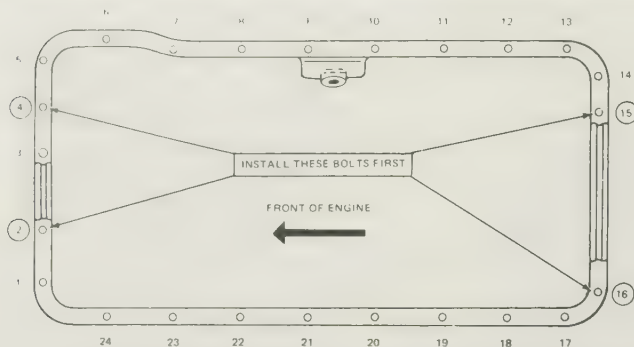

Fig. 1.65. Correct tightening sequence for oil pan bolts (Sec. 46)
- 8 Replace all the oil pan bolts and tighten them evenly to the specified torque setting (Fig. 1.65).